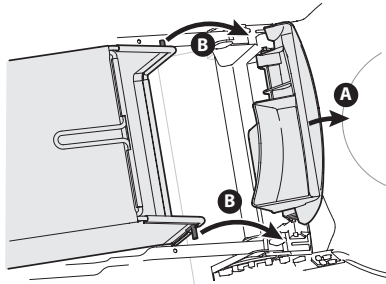

Figure 2-10
1. Follow steps below to attach grass catcher to mower. See Figure 2-10.